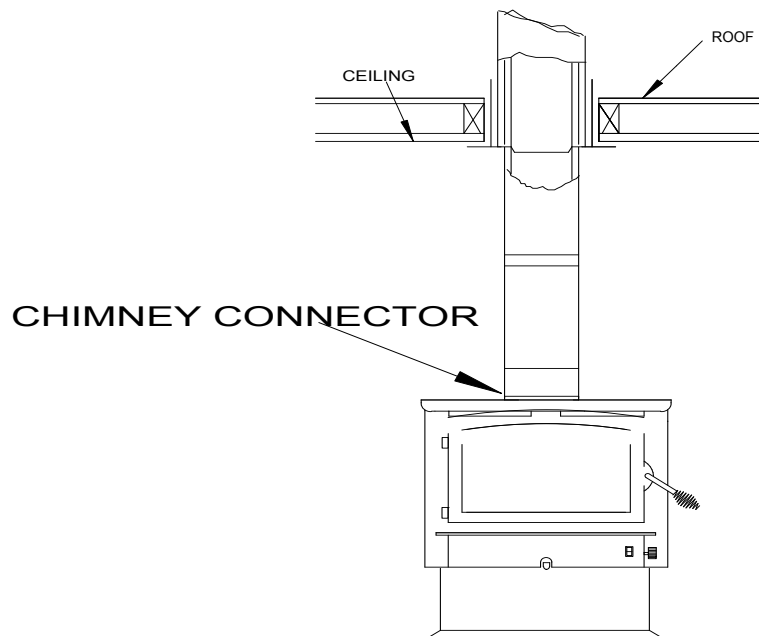

Figure 13
5. Using double wall chimney connector, connect the heater to the chimney by following manufacturer's installation instructions exactly. (See Figure 13.)